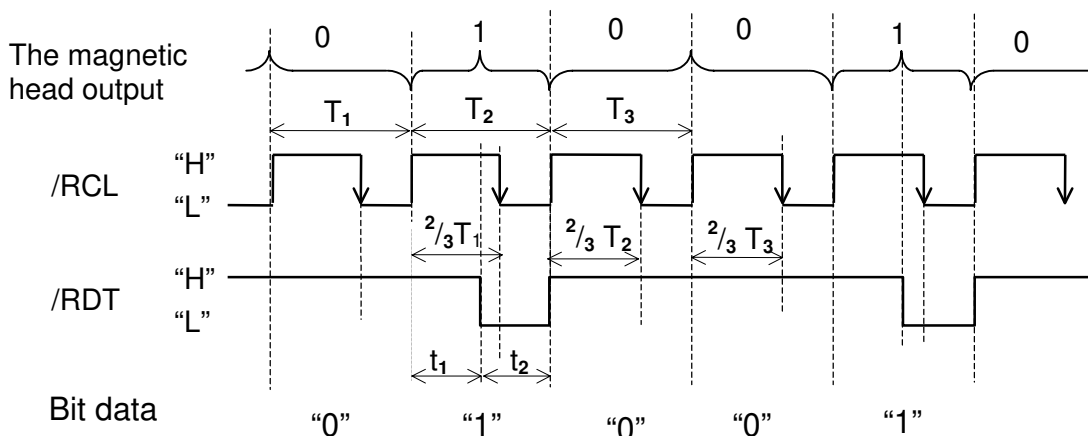

Fig 6.4.1 Timing sequence (Detail)
- (2) /RCL(READ CLOCK) : This is used to sample the data line by it's falling edges. The time relationship of the clock with respect to the order signals is shown in Figure 6.4.1.
- (3) /RDT(READ DATA) : The moment /RCL change from High to Low ; /RDT is "1" when the /RDT line is Low , and /RDT is "0" when the /RDT line is High.
- (4) SGND : Signal GND
- (5) FGND : Frame GND